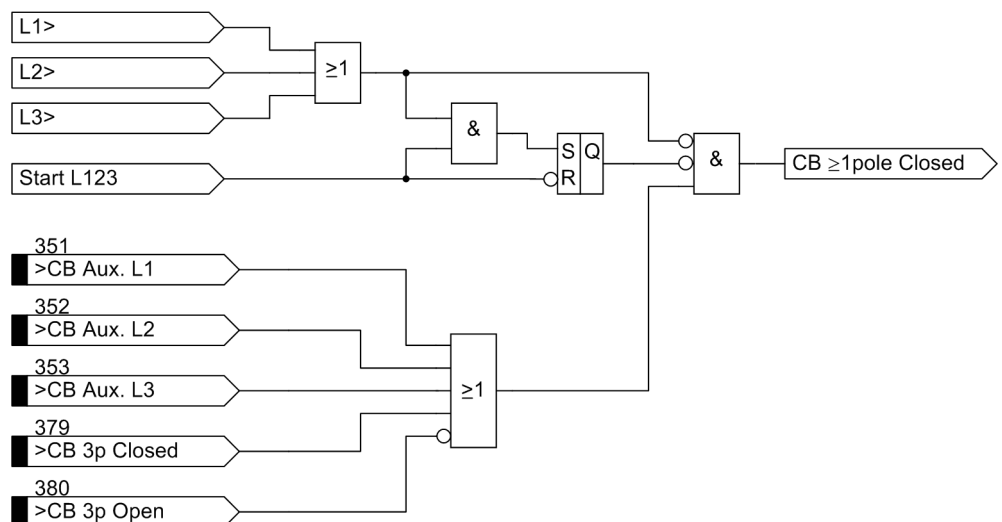

Figure 2-147 Creation of signal "CB \geq any pole closed"
If the current criterion is not fulfilled for any of the phases, the position of the circuit breaker auxiliary contact(s) is queried provided that this is available according to Figure 2-147. If the circuit breaker poles have individual auxiliary contacts, the series connection of the three normally closed (NC) auxiliary contacts is used. The circuit breaker has operated correctly after a three-pole trip command only when none of the phases carries current or when all three NC auxiliary contacts have closed.